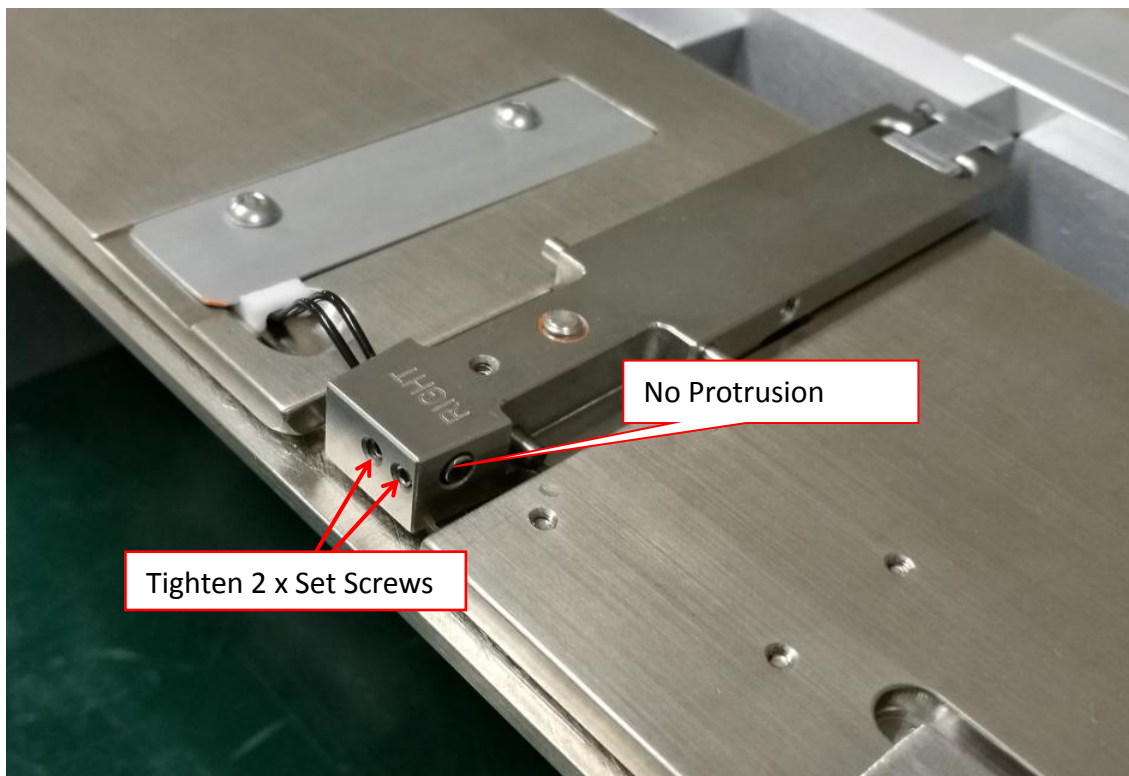

Figure 9 Set Screws Fastening
5. Align Sensor Head evenly with PIP Board Stop flat surface. Tighten 2 x Set Screws as shown in Figure 9.